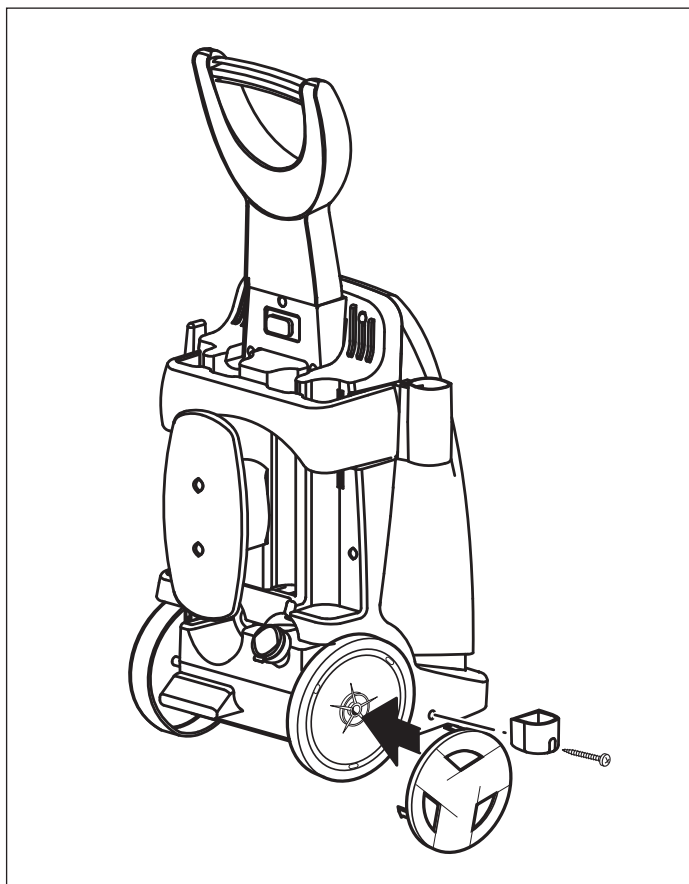

Figure 5
8. Attach lance storage holder with screw provided (Figure 5).
9. Align hub cap locking tabs with wheels and press into place (Figure 5).